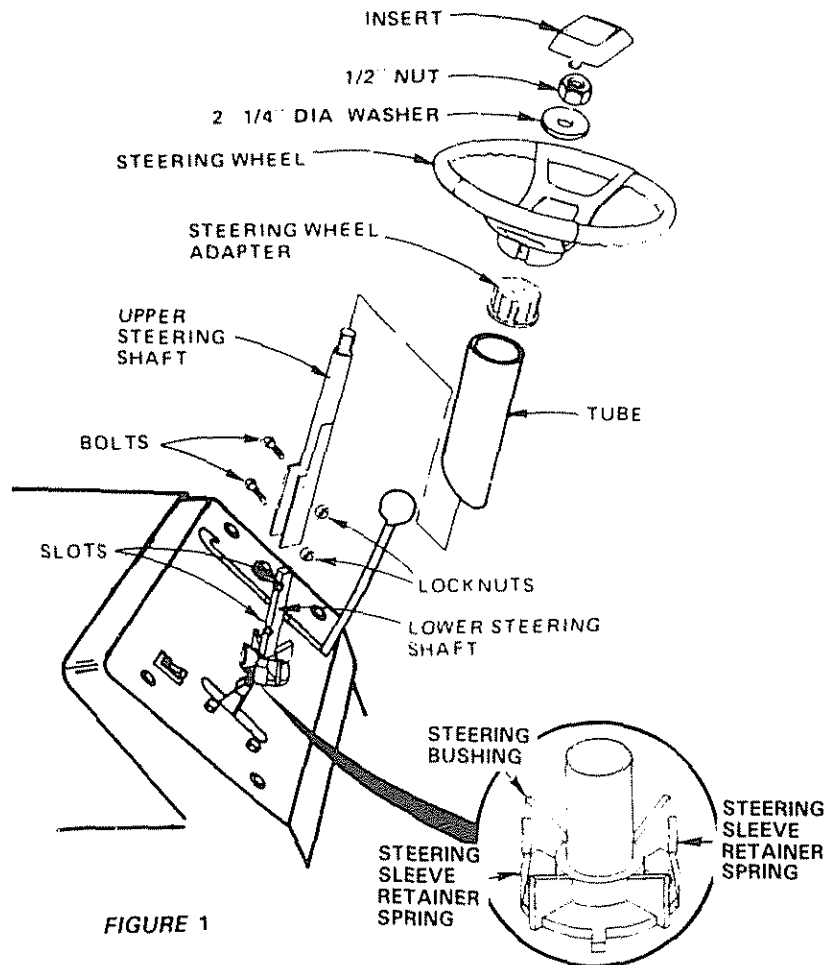

FIGURE 1
- Slide upper steering shaft over lower steering shaft until bolt holes line up with slots in lower steering shaft (Fig. 1).